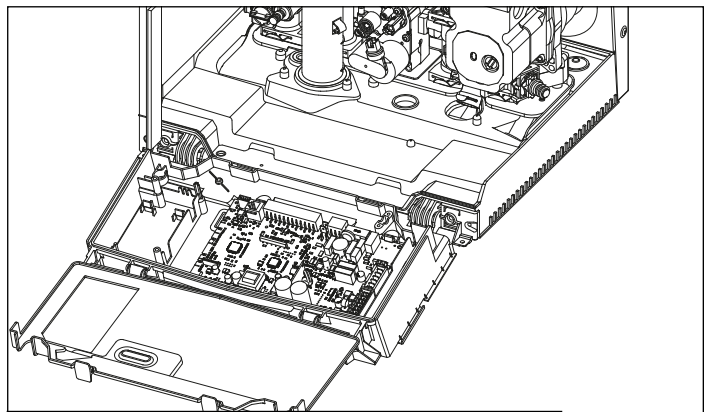

Figure 67 - 120V Connections for DHW and CH Circulators
6. Open the control panel cover to have access to the main PCB. See Figure 67.